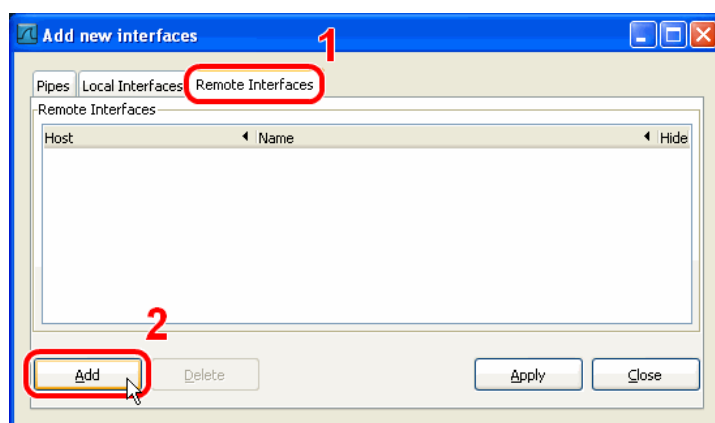

Figure 163: Wireshark Add New Interfaces Dialog.
3. Select the **Remote Interfaces** tab and click **Add** as shown in Figure 163.